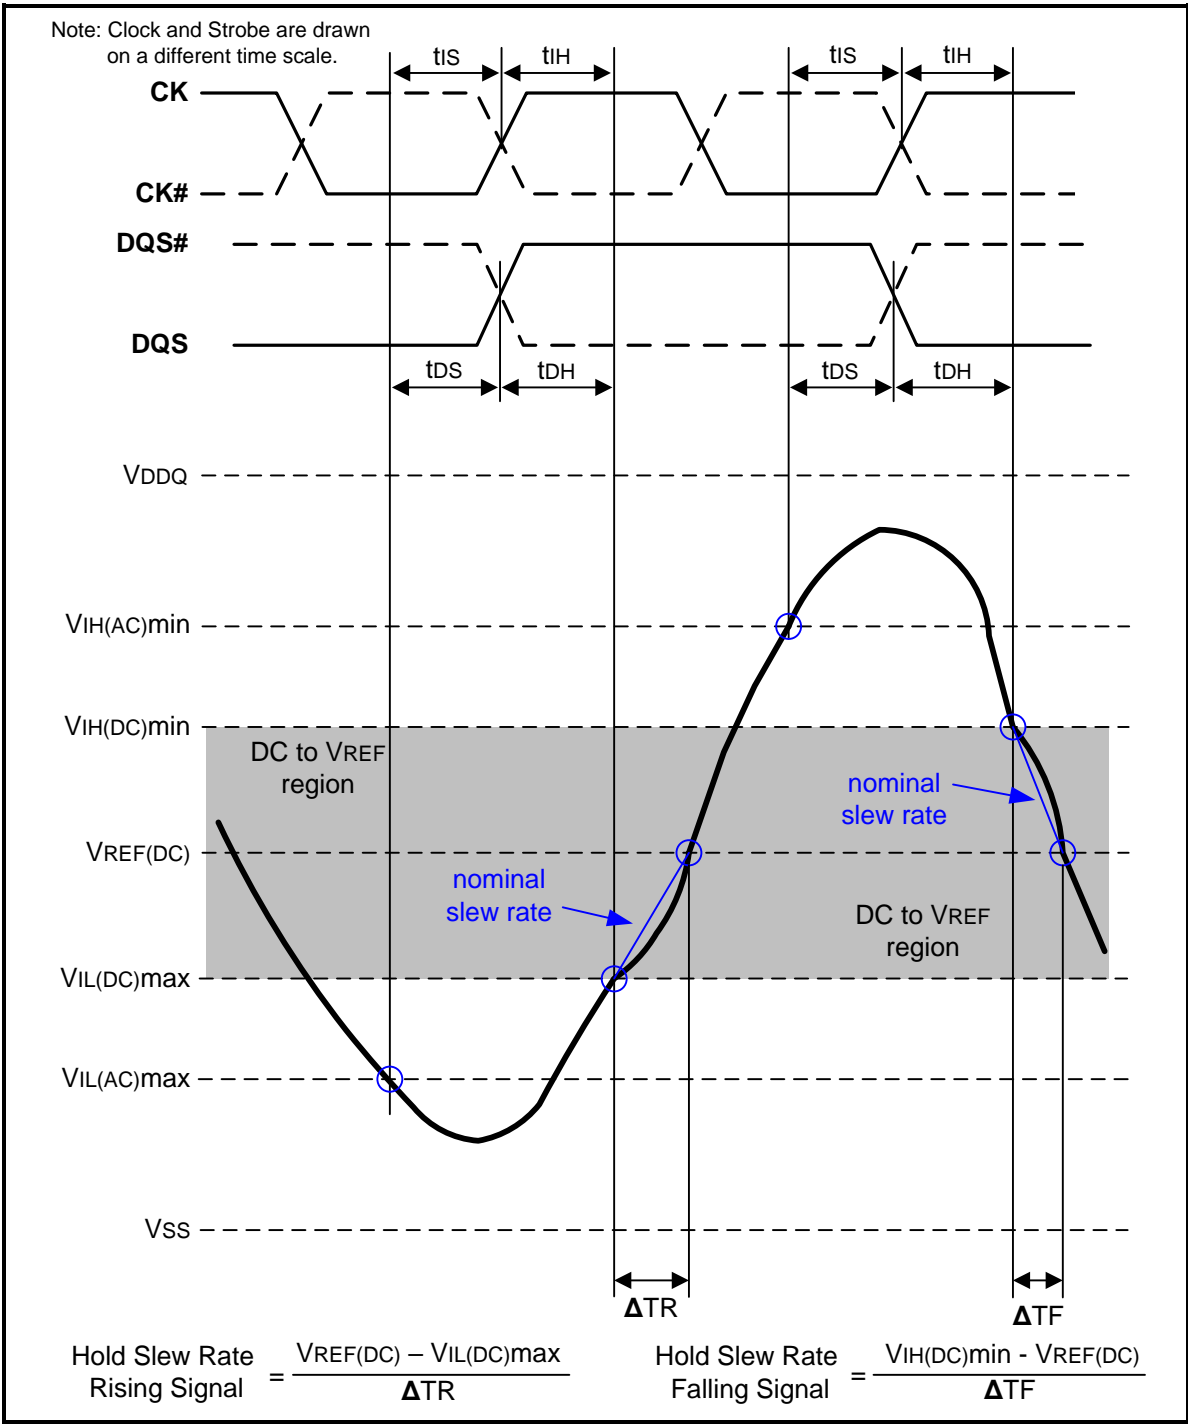
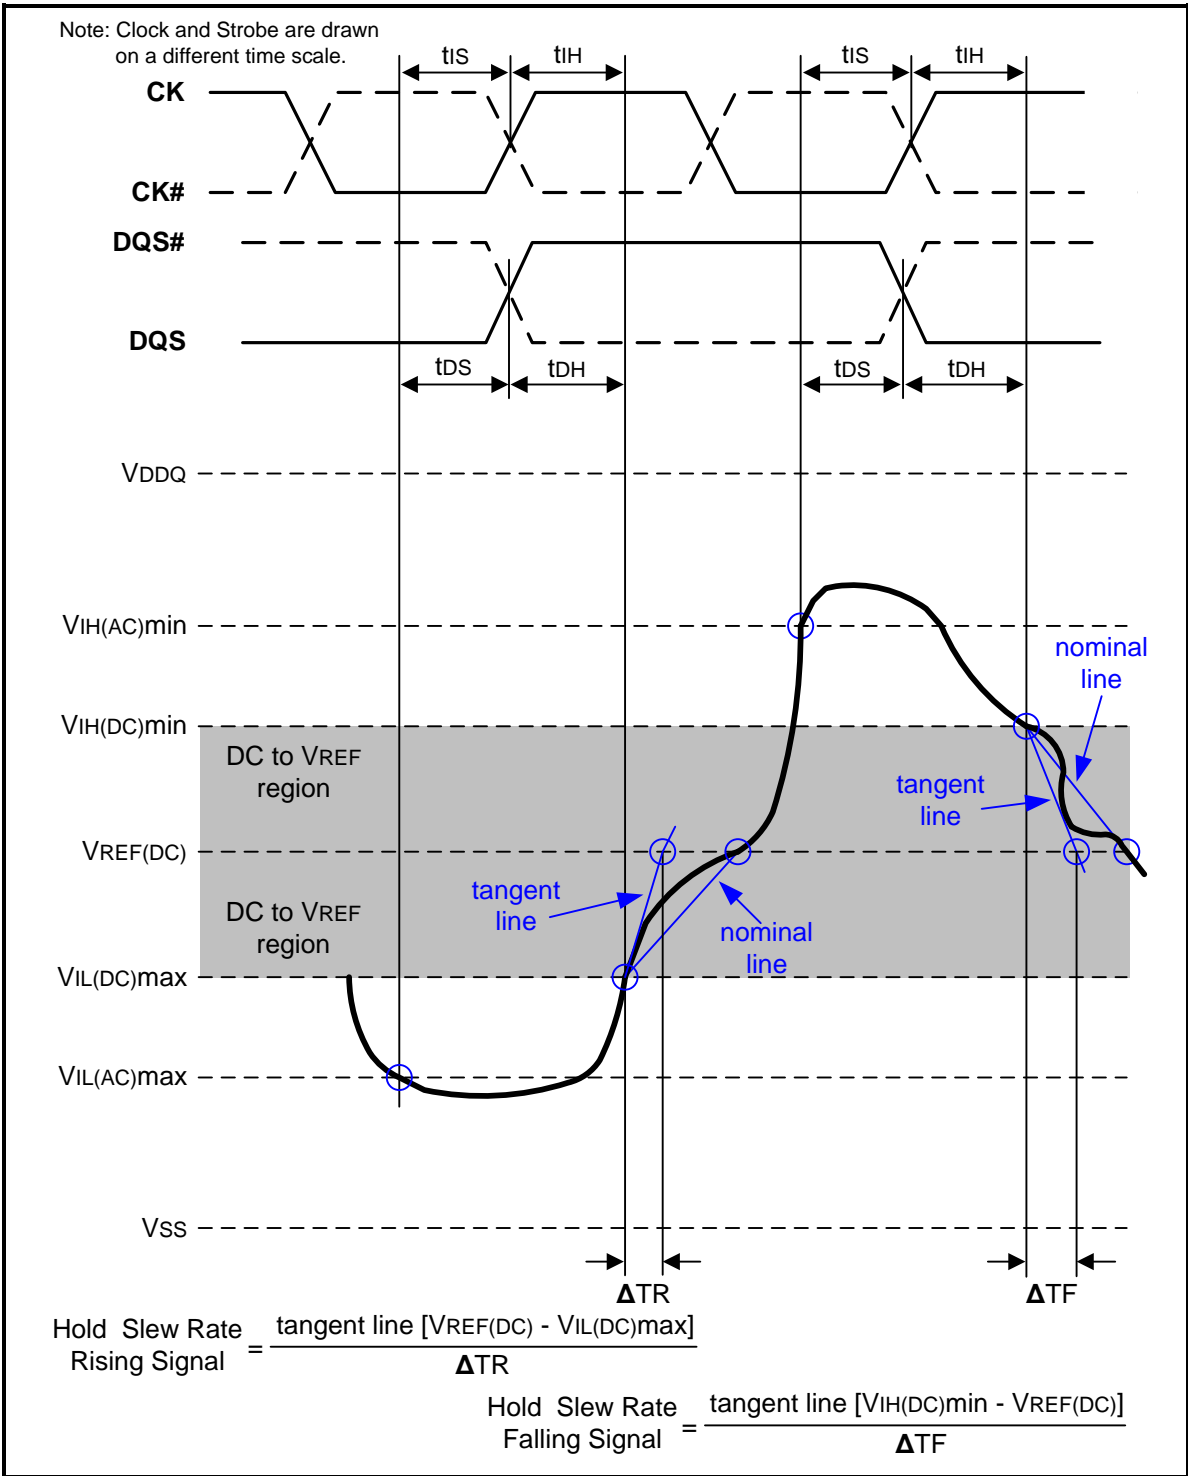

Figure 108 – Illustration of nominal slew rate for hold time tDH (for DQ with respect to strobe) and tIH (for ADD/CMD with respect to clock)
Figure 110 – Illustration of tangent line for hold time tDH (for DQ with respect to strobe) and tIH (for ADD/CMD with respect to clock)
Hold ( $t_{IH}$ ) nominal slew rate for a rising signal is defined as the slew rate between the last crossing of  $V_{IL(DC)max}$  and the first crossing of  $V_{REF(DC)}$ . Hold ( $t_{IH}$ ) nominal slew rate for a falling signal is defined as the slew rate between the last crossing of  $V_{IH(DC)min}$  and the first crossing of  $V_{REF(DC)}$ . If the actual signal is always later than the nominal slew rate line between shaded ' $DC$  to  $V_{REF(DC)}$  region', use nominal slew rate for derating value (see Figure 108). If the actual signal is earlier than the nominal slew rate line anywhere between shaded ' $DC$  to  $V_{REF(DC)}$  region', the slew rate of a tangent line to the actual signal from the DC level to  $V_{REF(DC)}$  level is used for derating value (see Figure 110).
Hold (tDH) nominal slew rate for a rising signal is defined as the slew rate between the last crossing of VIL(DC)max and the first crossing of VREF(DC). Hold (tDH) nominal slew rate for a falling signal is defined as the slew rate between the last crossing of VIH(DC)min and the first crossing of VREF(DC) (see Figure 108). If the actual signal is always later than the nominal slew rate line between shaded 'DC level to VREF(DC) region', use nominal slew rate for derating value. If the actual signal is earlier than the nominal slew rate line anywhere between shaded 'DC to VREF(DC) region', the slew rate of a tangent line to the actual signal from the DC level to VREF(DC) level is used for derating value (see Figure 110).